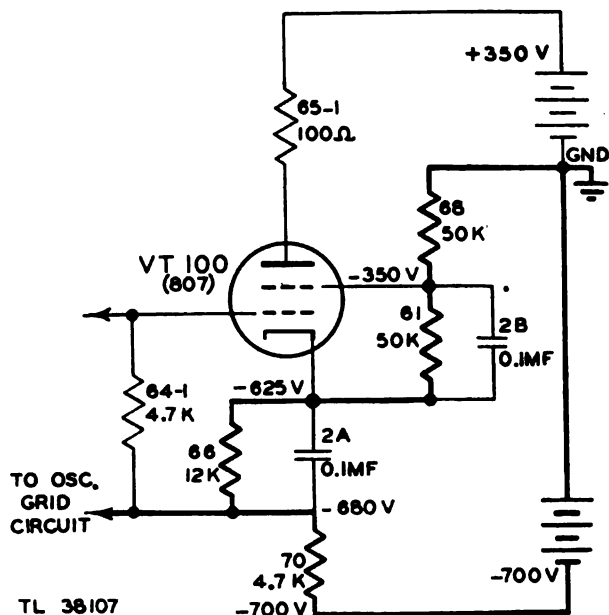

Figure 9. Bias circuit of modulator tube.
b. BIAS CIRCUIT. During the period between pulses the modulator tube is biased beyond cut-off by the voltage developed across resistor 66. Resistor 66 is part of the voltage-divider network, consisting of resistors 70, 66, 61, (which is 61-3 and 61-4) and 68, across which the bias voltage of -700 volts is placed. The approximate voltages across this divider are given in figure 9. The cathode potential is -625 volts and the grid potential is -680 volts. Consequently, the tube is biased beyond cut-off. During this period, the VT-100 draws no current and the voltage on the plate is the supply voltage of 350 volts positive.